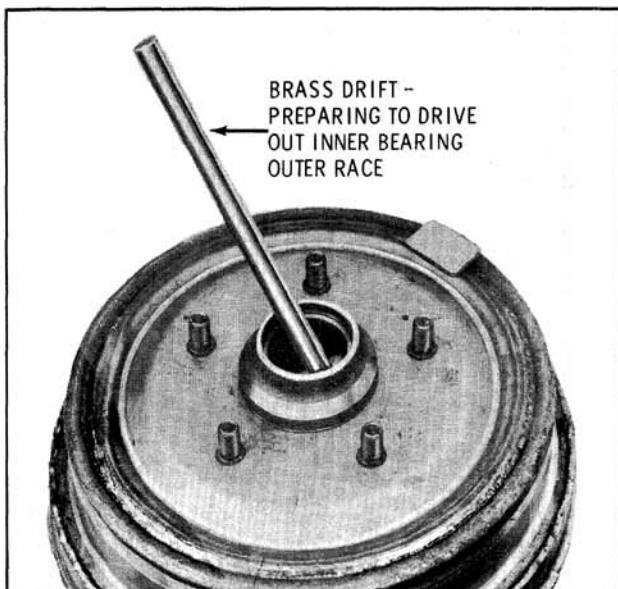

Fig. 9-3 Removing Inner Bearing Outer Race
4. If necessary to remove outer races, insert a brass drift into hub, indexing end of drift with notches in hub behind bearing outer race and tap with a hammer. (Fig. 9-3)